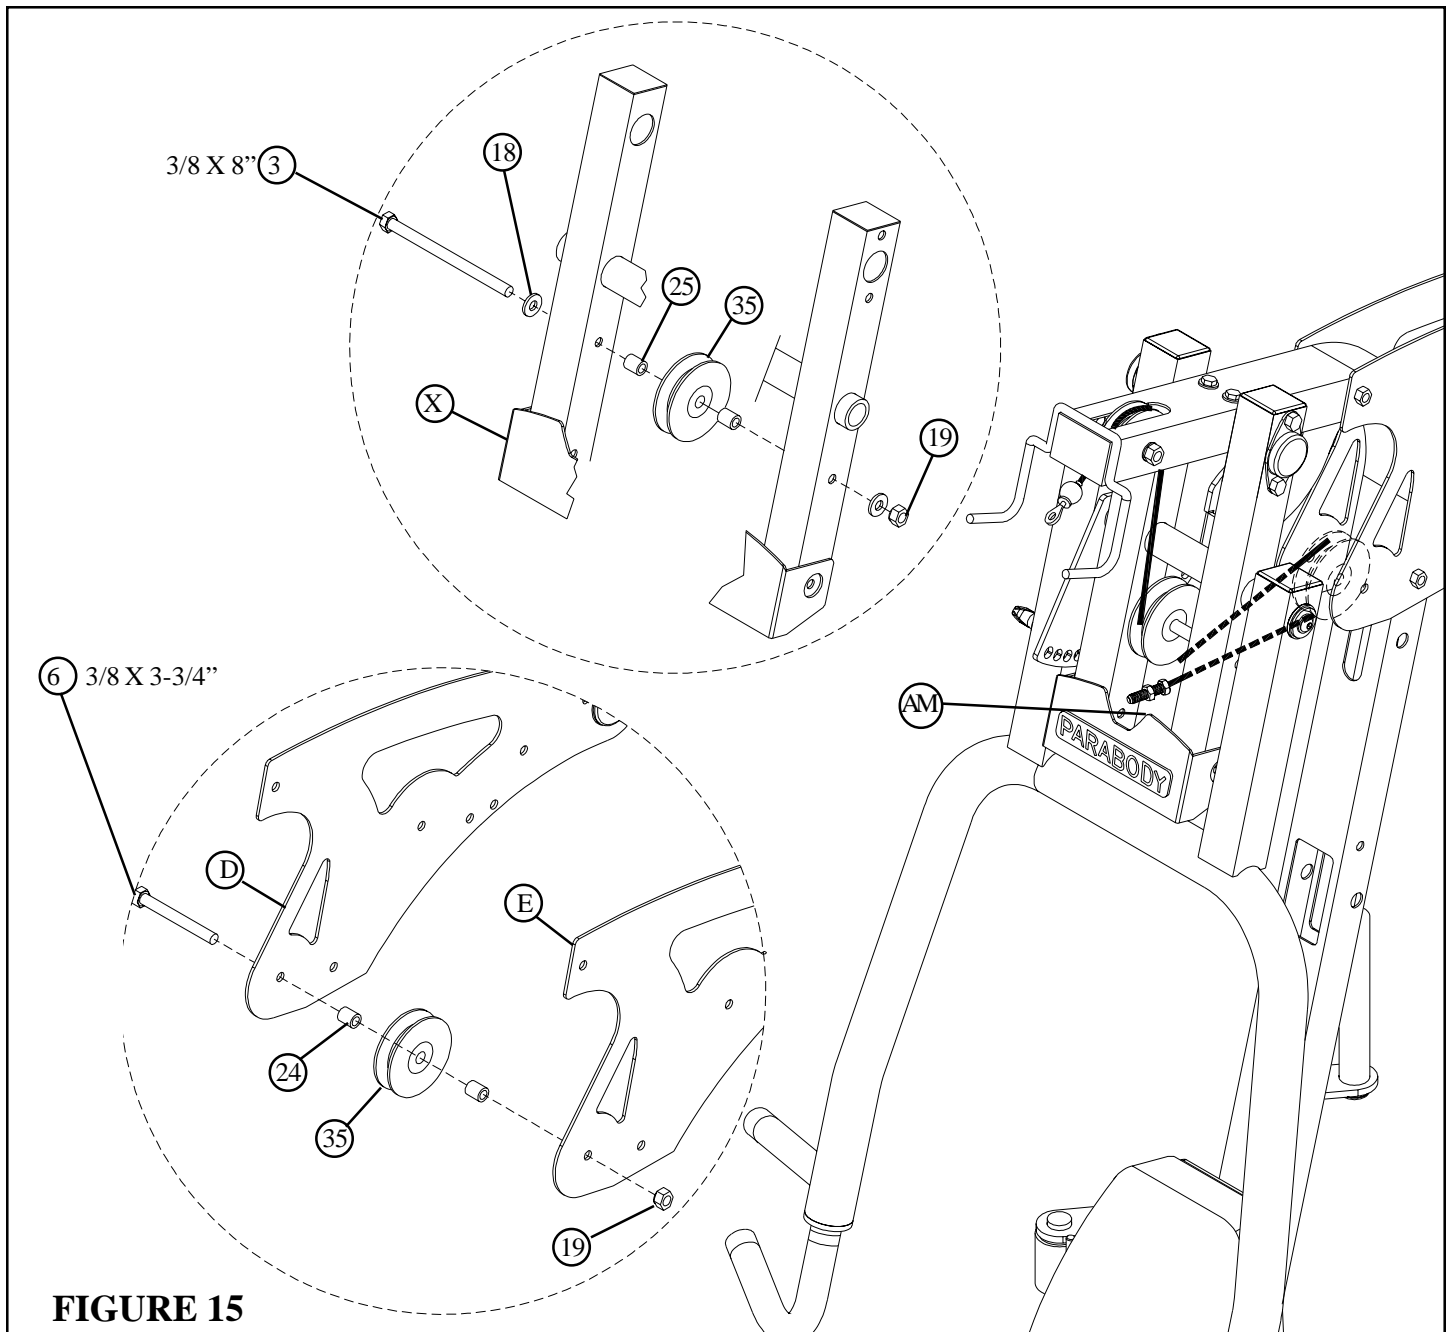

**FIGURE 14**
- Route the LAT CABLE (AM) through the FRAME (A) and assemble one 3-1/2" PULLEY (35) to the FRAME (A) using one 3/8 X 3-3/4" BOLT (6), two 3/8 X 1-1/16" FLANGE SPACERS (26) and one 3/8" LOCK NUT (19). See FIGURE 14.